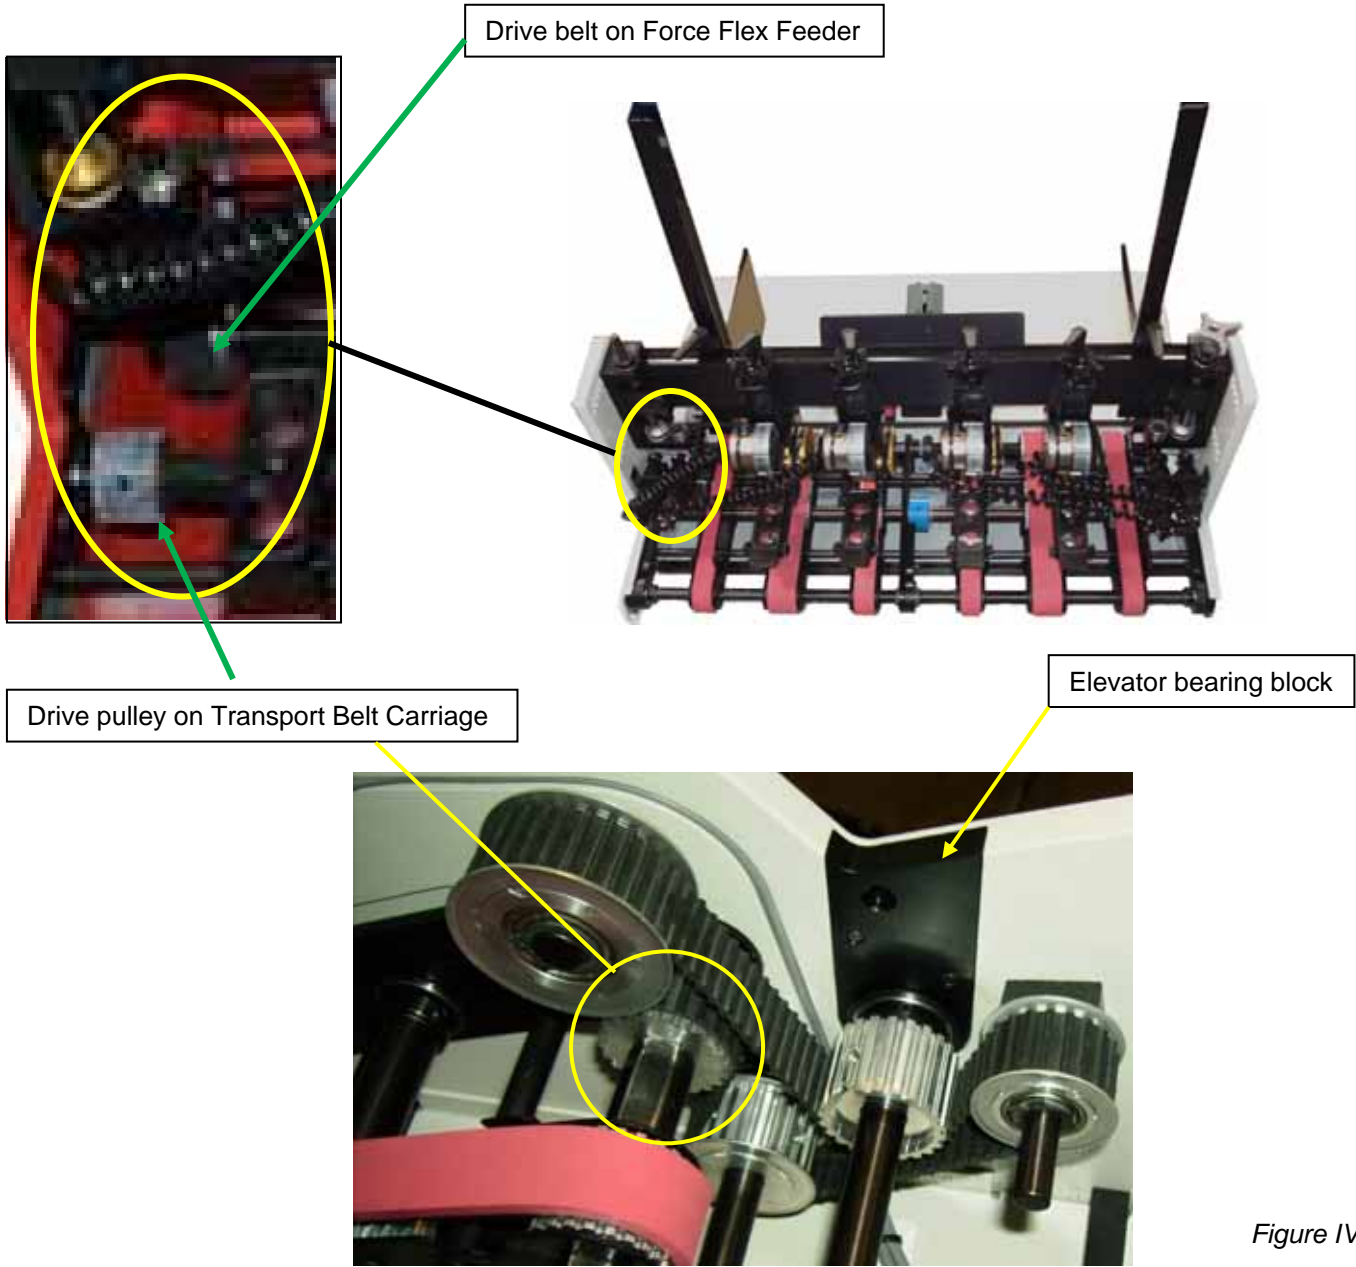

Figure IV-8
- a. Ensure that drive pulley on Carriage engages timing belt on feeder drive shaft. See figure IV-8.